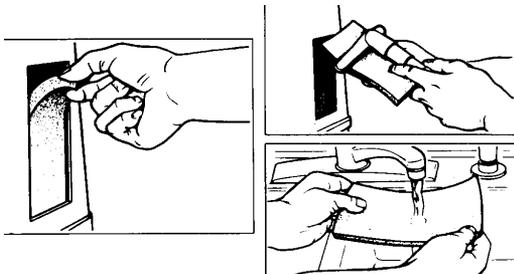

FIGURE 2 - CLEANING THE CABINET FILTERS
1. Remove each filter and **CLEAN AT LEAST ONCE A WEEK** depending on environmental conditions (**FIGURE 2**).
2. Clean the cabinet filters with a vacuum cleaner or wash in warm soapy water and rinse thoroughly (**FIGURE 2**).